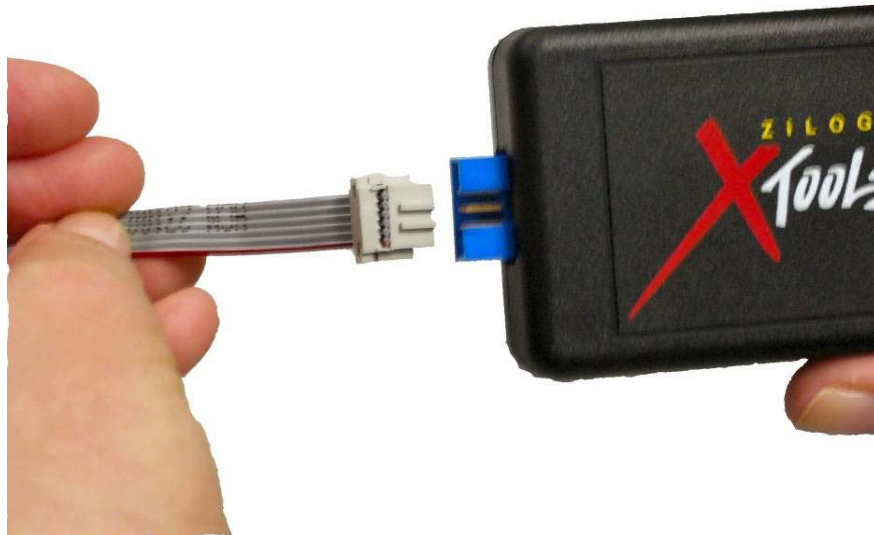

Figure 3. Connecting the Six-Conductor Ribbon Cable to the USB Smart Cable
1. Attach one end of the six-conductor ribbon cable (included) to the USB SmartCable six-pin DBG connector, as shown in Figure 3.